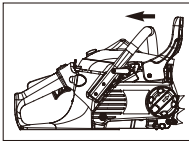

Fig. 3A
2. Make sure the CHAIN BRAKE[®] lever is pulled back into the DISENGAGED position. (Fig.3A)